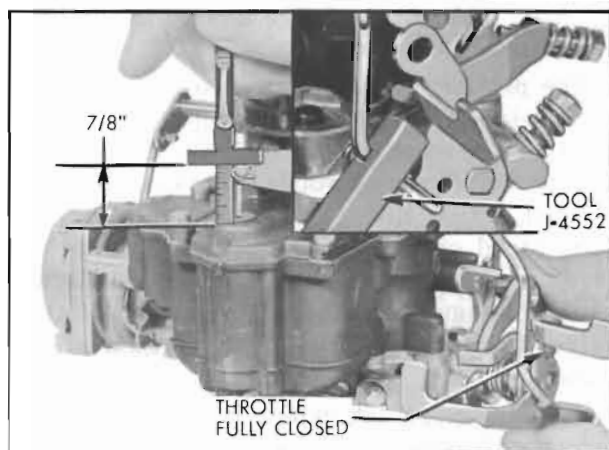

Figure 3-73—Accelerator Pump Adjustment
15. Install air horn screws. Make sure lower end of pump rod is in medium stroke hole. Back out throttle stop screw and completely close the throttle valves. Then measure vertically from upperside of pump plunger offset to air horn casting. Bend pump rod as required to obtain  $\frac{7}{8}$ " measurement using Tool J-4552. Then open throttle wide; pump arm must clear air horn at least  $\frac{1}{32}$ ". See figure 3-73.